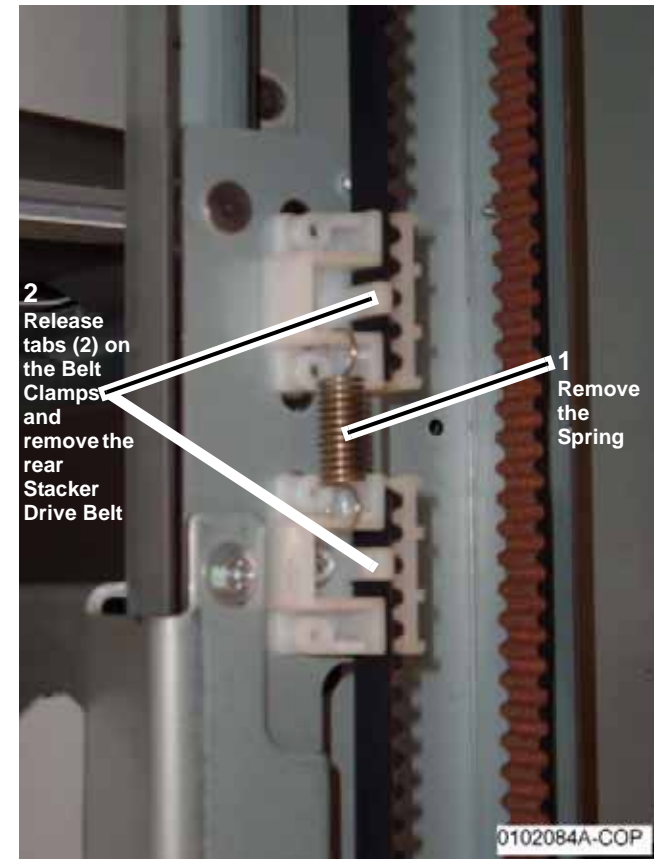

Figure 1 Removing the rear Stacker Belt (P Finisher shown)
5. Remove the rear Stacker Drive Belt (Figure 1).